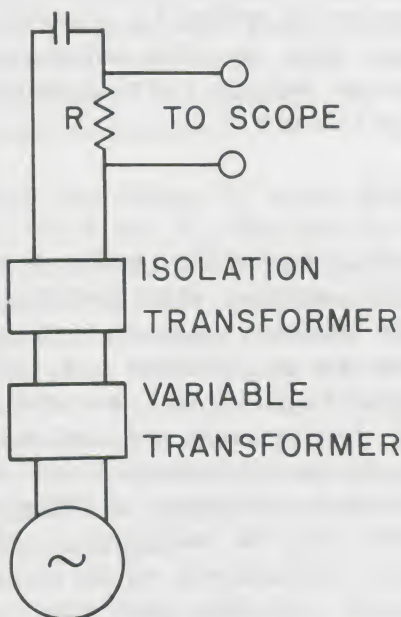

Figure 19. Circuit for Experiment B-1.
1. Connect a series circuit as shown in Figure 19. As before, use the variable transformer and an isolation transformer as your source of AC voltage. Be sure the voltage setting of the variable transformer is initially zero.